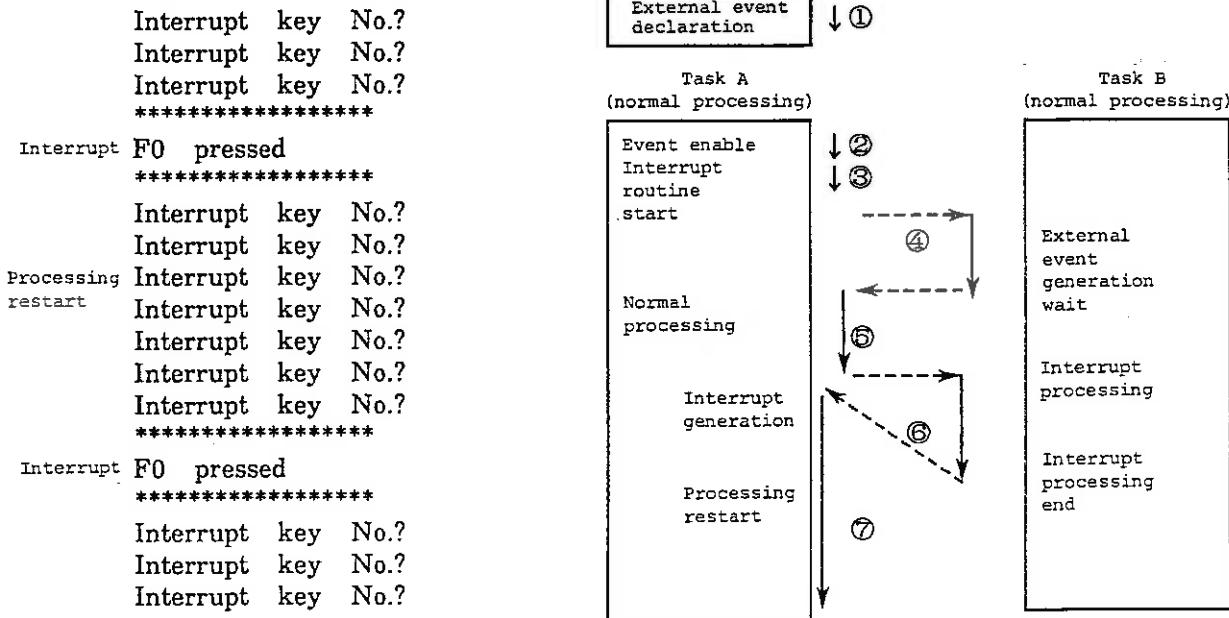

Fig. 11-4 Interrupt Parallel Processing by Function Key
Steps ① to ⑦ of Fig. 11-4 are described below:
① The execute the task B interrupt routine, first, event GOTOB is declared for the entire program by line 10.